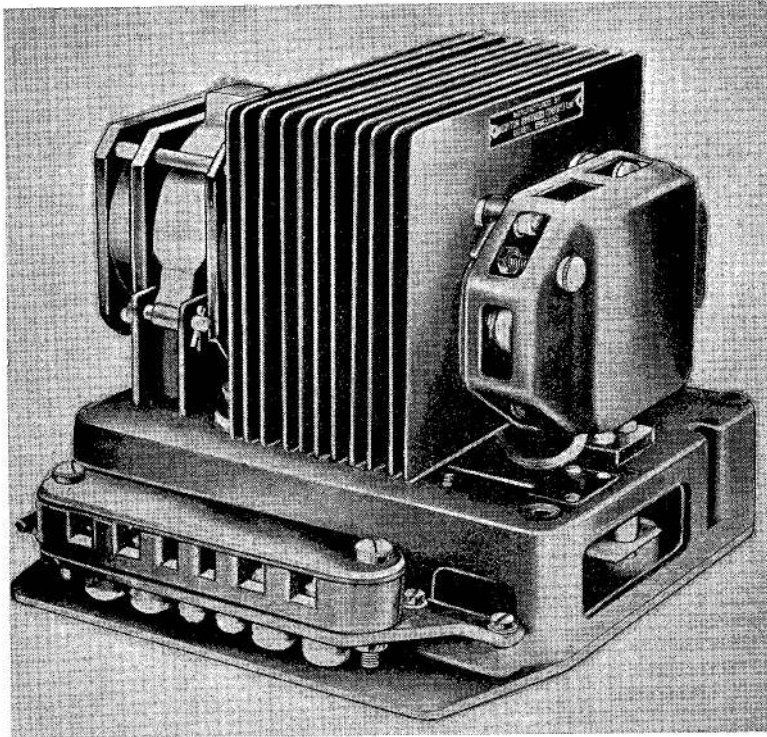

Fig. 1. Voltage regulator, Type 126
2. The regulator fig. 1, is of the single carbon pile type, and in general construction and principle of operation is similar to the standard design, described in A.P.113D-0003-16 (formerly A.P.4343, Vol. 1, Sect. 6, Chap. 1). The voltage unit incorporates a carbon pile which is made up as follows:—